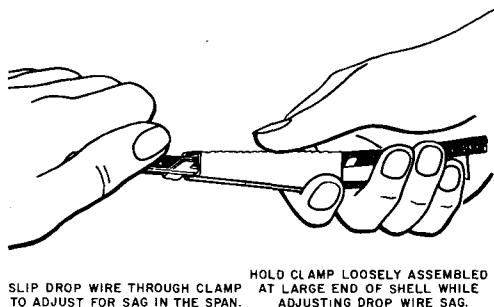

Fig. 5 — Adjusting for Sag in Drop Wire
2.05 Slide the assembled shell and shim along the wire to a position where the wedge can be easily inserted into the large end of the shell. Insert the wedge into the shell and hold loosely assembled in one hand while pulling slack in or out of the drop wire through the clamp until the proper sag is obtained. (See Fig. 5.)